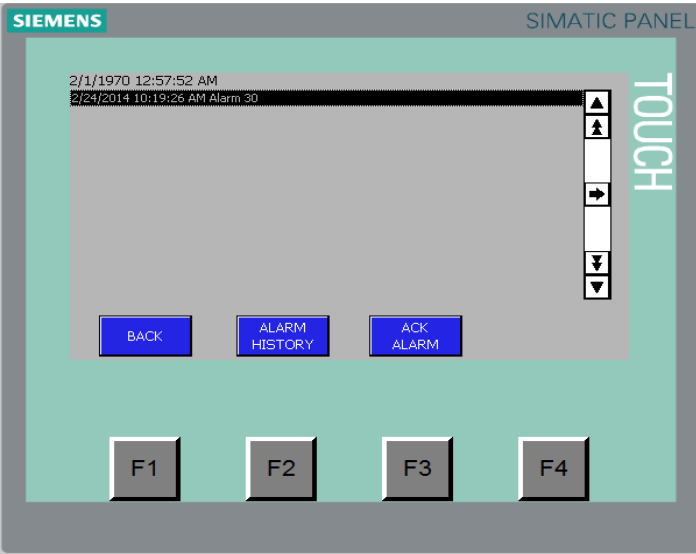

Figure 1.4
- 6.6 Alarms Pressing F4 (ALM) will navigate to this screen (figure 1.4). The Alarm screen displays the Faults and Warnings the system encountered during operation. The current alarm message may be cleared without clearing the history by pressing the ACK ALARM button